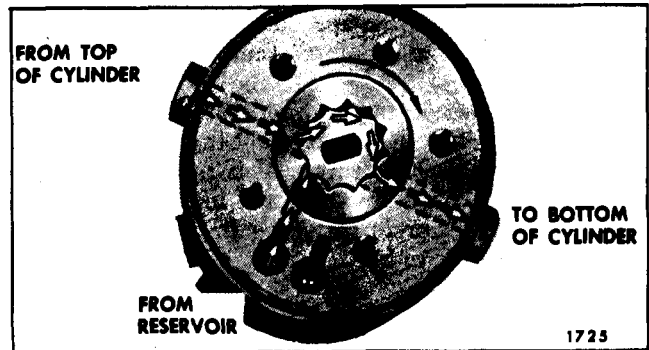

Fig. 12-20-Operation of Pump to Raise Top
1. Raising the top. When the red motor lead is energized the motor drive shaft turns the rotors clockwise as indicated by the large arrow in Figure 12-20. The action of the pump rotors forces the fluid under pressure to the bottom of each cylinder forcing the piston upward. This action causes the fluid above the piston in each cylinder to be forced into the pump, which recirculates the fluid to the bottom of the cylinders. The additional fluid required to fill the cylinder due to piston rod displacement is drawn from the reservoir.